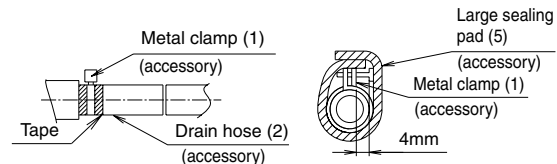

Fig. 15
- Use the drain hose (2) and the metal clamp (1). Insert the drain hose (2) fully into the drain socket and firmly tighten the metal clamp (1) with the upper part of the tape on the hose end. Tighten the metal clamp (1) until the screw head is less than 4 mm from the hose. (Refer to Fig. 15, 16)